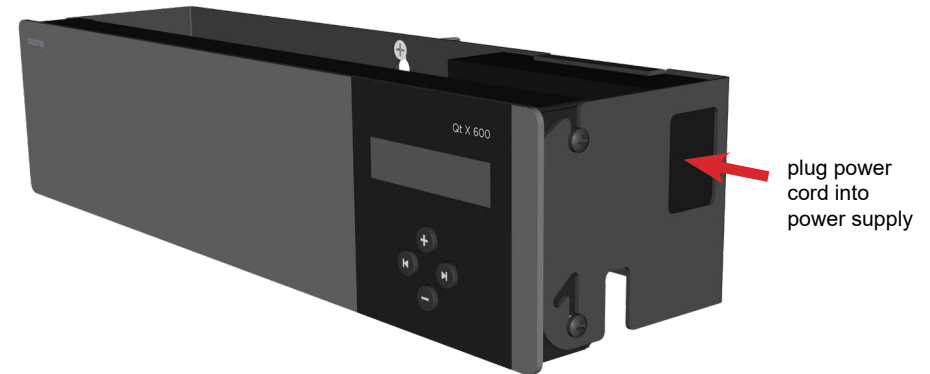

Figure 2. Controller in operating position
4. Connect all wiring/cabling as described in Wiring & Connections. Rotate the Qt X up and move down into the operating position to lock into place. Tighten the side screws to secure it to the bracket. See Figure 2.